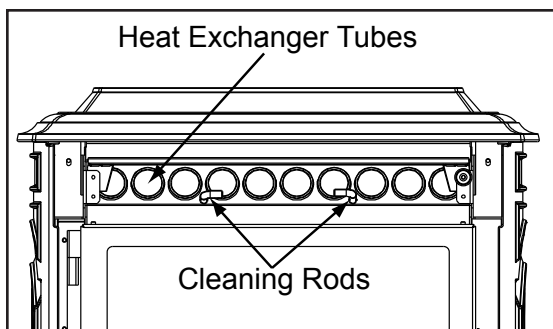

Figure 28.1
- Allow the appliance to completely cool down before pulling the cleaning rods. Turn the thermostat on and then immediately off to start the exhaust blower on its cycle time. It will pull fly ash out the exhaust instead of into the room. Open the cast hinged face to access the 2 cleaning rods. **See Figure 28.1.**